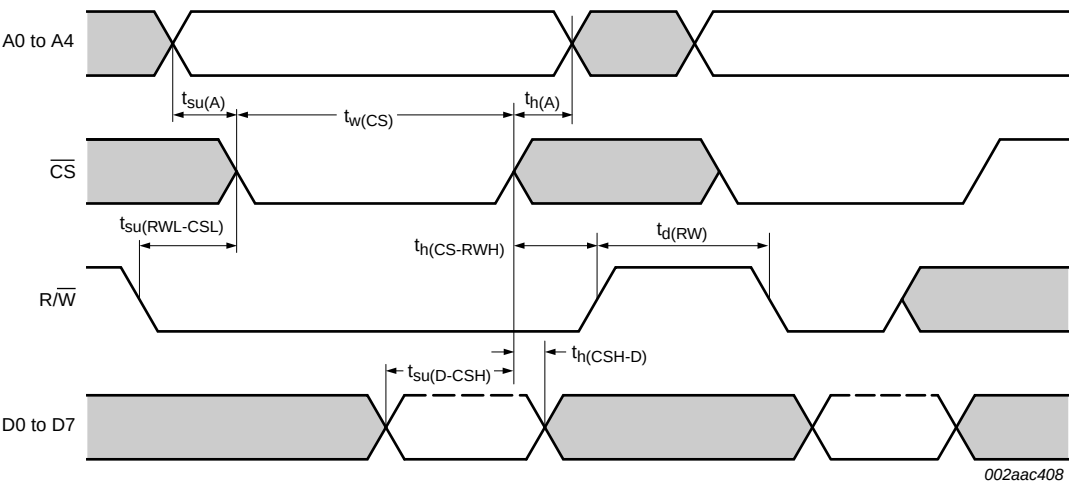

Fig 12. General write timing in 68 mode
(1) CS timing during a write cycle. See Figure 12.